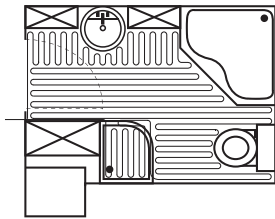

Figure 2.
Start by laying the cable from the thermostat, stay 3" from the wall and run the cable in a series of "S" loops across the floor. Maintain the calculated spacing as you go (Figure 2). If, for instance, the spacing is 6" on center (OC). Lay the first cable 3" from the wall, the second cable loop will be 9" from the wall. Use one half OC spacing from all obstacles, stay 8" away from toilet wax seal. Continue laying cable in the "S" pattern, maintain full spacing over balance of area to be warmed.